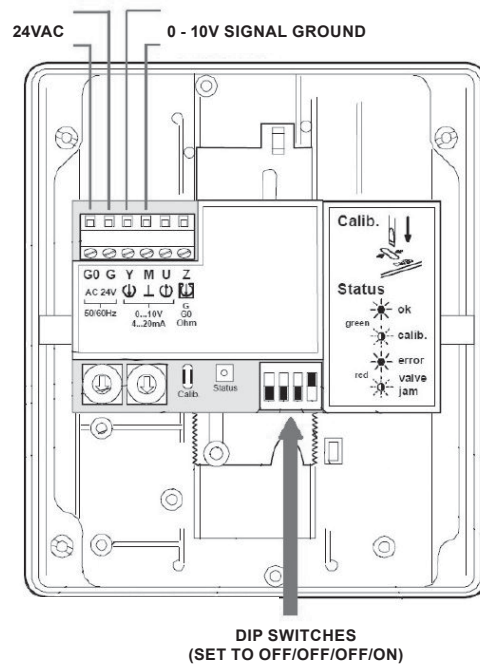

Figure 3. Type VH210 ETC Settings and Connections
3. Connect the ETC to the Type VH210 pilot using 18 AWG or larger wiring. Refer to Figures 3 and 4. No separate power is required to operate the Type VH210 pilot.